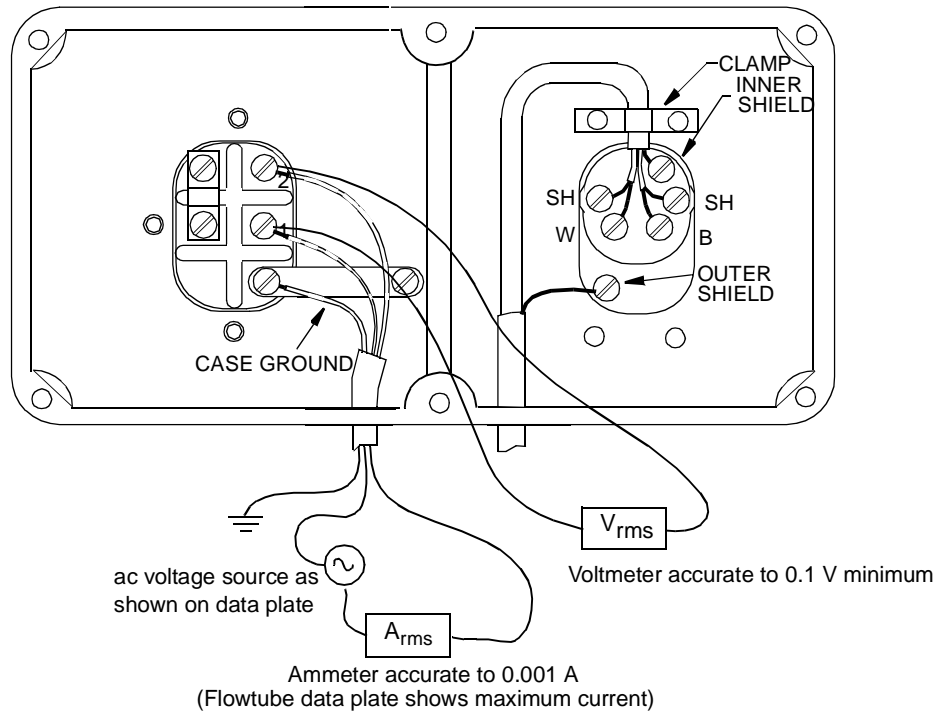

Figure 2. Determining Reference Units Factor for Conversion by Measurements Method
2. Connect your ammeter and voltmeter to the flowtube per Figure 2. Use an ammeter compatible with the **AMPS-MAX.** value stamped on the flowtube data plate.
The current and voltage readings taken at the flowtube using Figure 2 as a guide are: